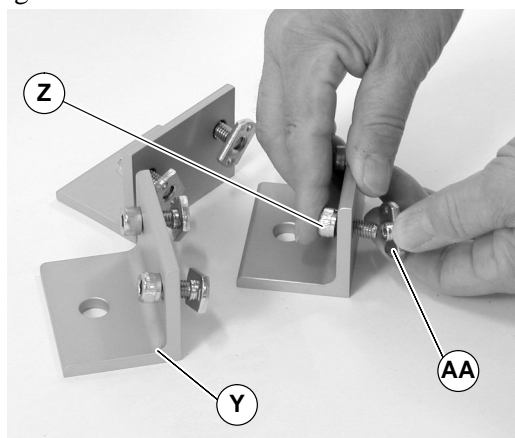

Figure 11
3. Place two socket screws (Z of Figure 11) and nuts (AA) on the three stand foot brackets (Y). Do not tighten.